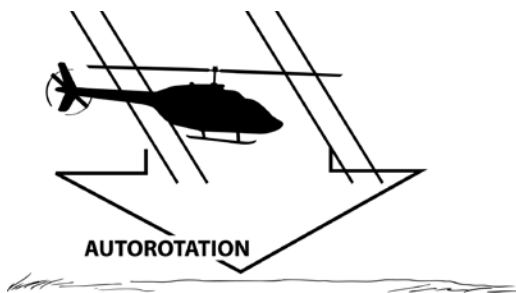

Figure 15
**AUTOROTATION** is a non-powered flight condition in which the rotor system maintains flight rpm by reversed airflow. (Fig. 15) It provides the pilot a means of safely landing the helicopter after an engine failure or other mechanical emergency.
When the helicopter is powered by the engine, airflow is downward through the rotors. During an autorotation, airflow is upward, “wind milling” the rotor blades as the helicopter descends (Fig. 15). The pilot maintains constant rotor r.p.m. by changing pitch to the blades as the aircraft continues descent. As the helicopter approaches a landing site, the pilot flares the aircraft by moving the cyclic back and gently lifting the nose. This slows the forward airspeed and rate of descent.